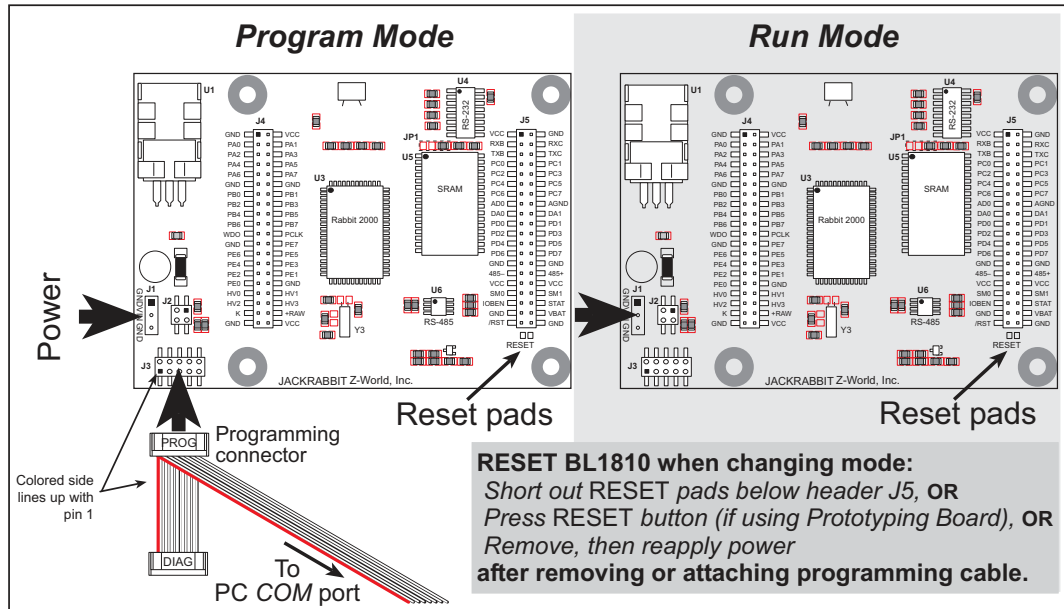

Figure 5. BL1810 Program Mode and Run Mode Setup
The BL1810 is automatically in Program Mode when the programming cable is attached, and is automatically in Run Mode when no programming cable is attached. See Figure 5.
2. Reset the BL1810. You may do this as explained in Figure 5. Figure 6 shows the location of the RESET button on the Prototyping Board.